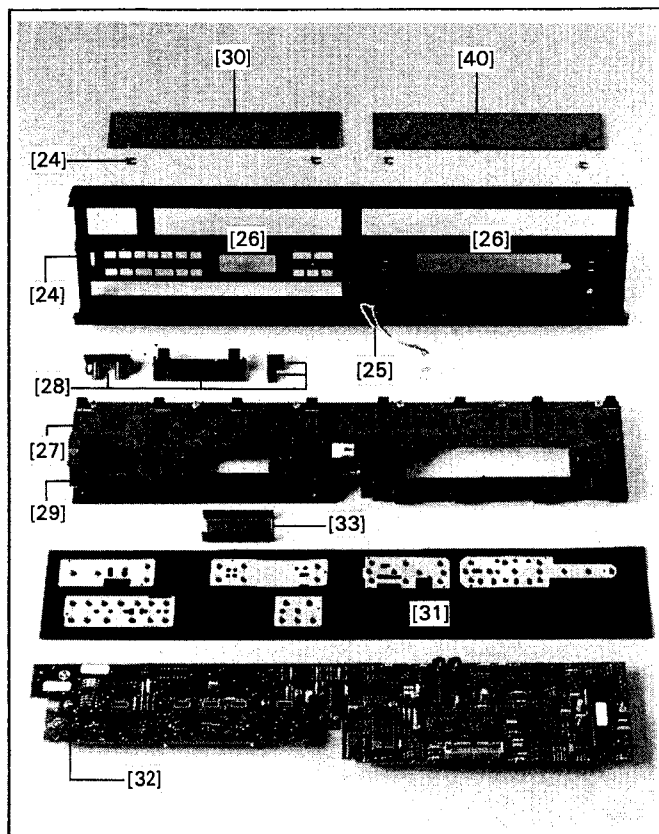

Fig.2.8
The LC display (33) can drop out when you remove the MICROPROCESSOR BOARD! The glass piece rests on two conductive rubber strips (34) which in turn rest loosely on the MICROPROCESSOR BOARD (Figs. 2.8, and 2.9).